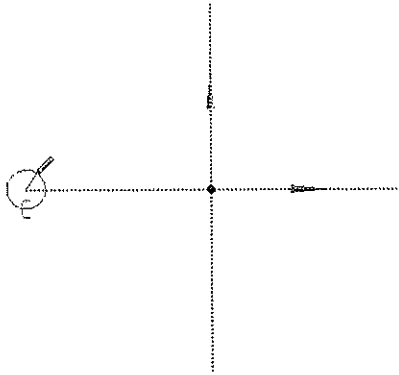

Figure 5-37 Creating the circular profile
9. Next, move the circle away from the center point of the circle and click again to specify the radius and then create the circle, as shown in Figure 5-37.